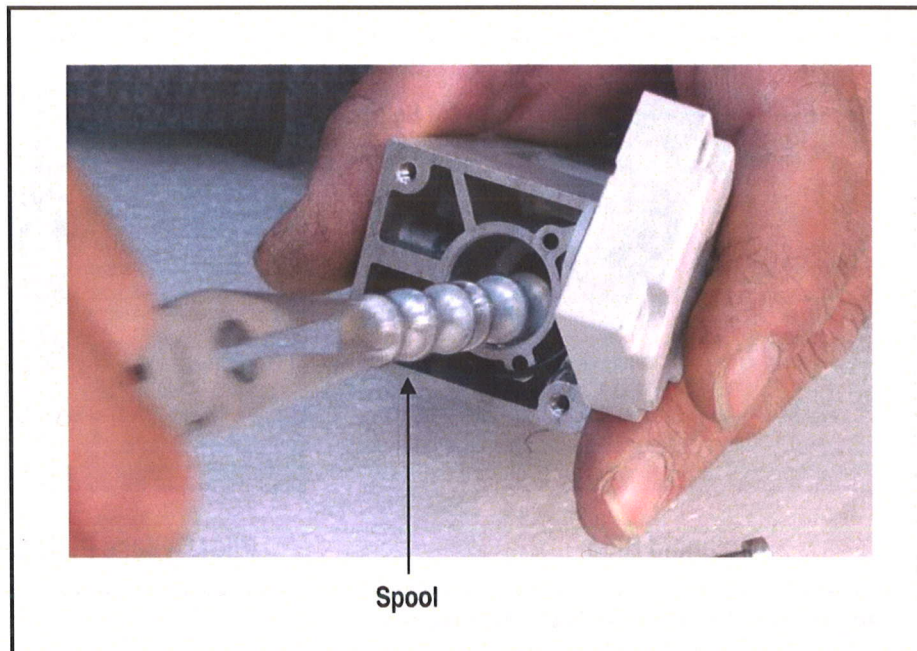

Figure 17: Valve Spool Replacement with Needle-nose Pliers
- b. Remove old gasket, taking note of orientation, and replace with new one. Ensure that new gasket is positioned properly. The tab on the gasket should be pointing to the etched "I," towards the bottom (Figure 17).